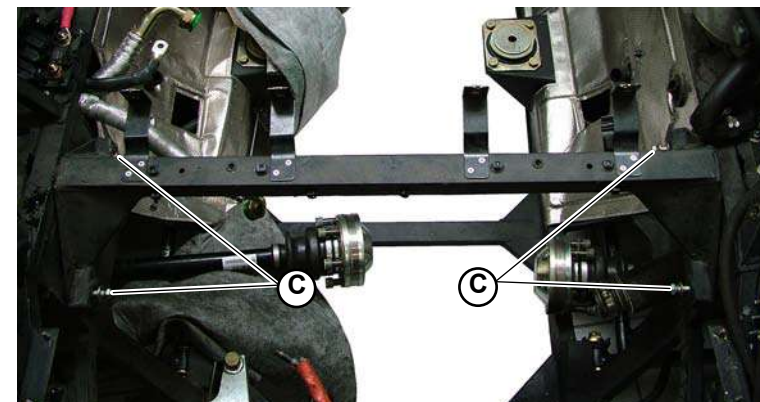

Fig.2
- Remove the rear cross member, unscrewing the 4 screws (C-Fig.2) of the two inner sides.